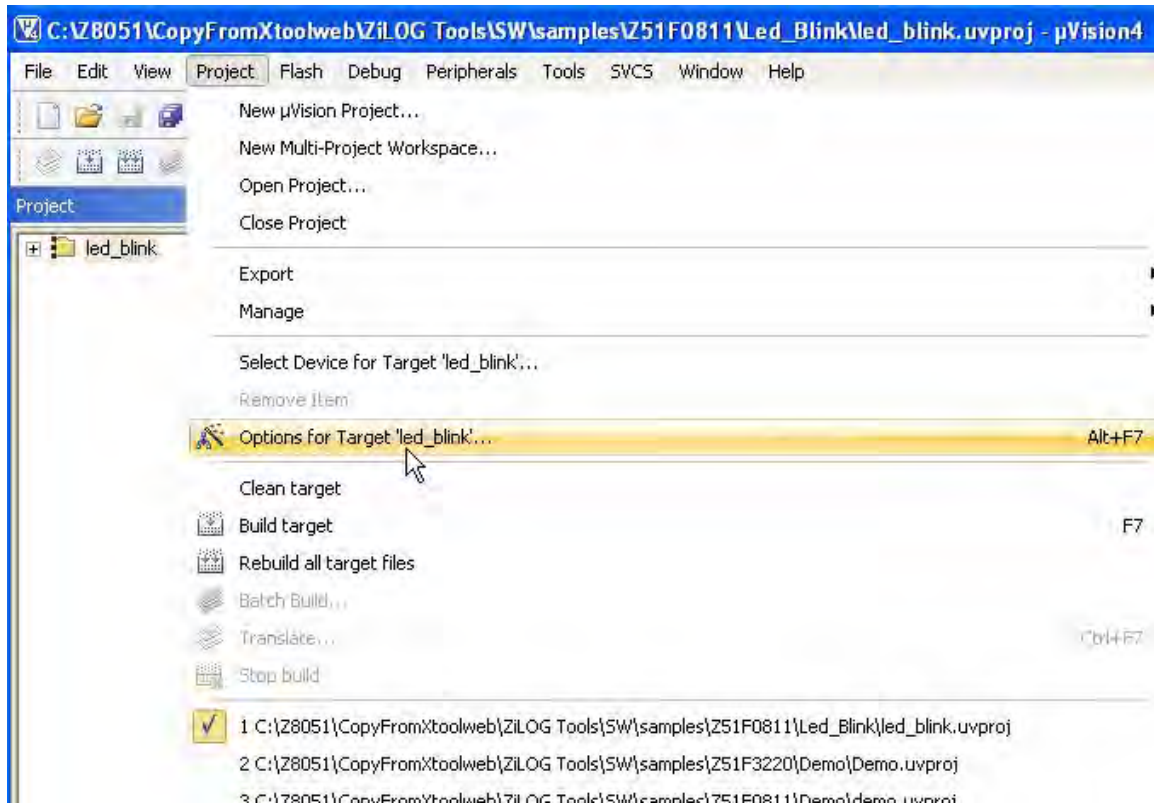

Figure 6. Selecting The Project Options
1. Highlight the led_blink item in the left-hand pane of the uVision window. Then, from the list of menus at the top of the window, select **Project** → **Options** for the led_blink target, as indicated in Figure 6.